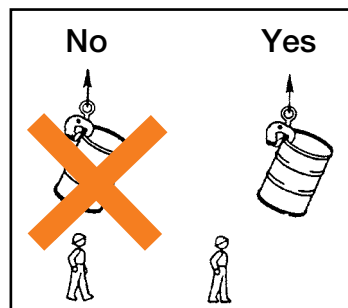

Figure 61
**⚠ WARNING!: All personnel must stand clear of drum while it is being lifted or removed (Fig. 61).**